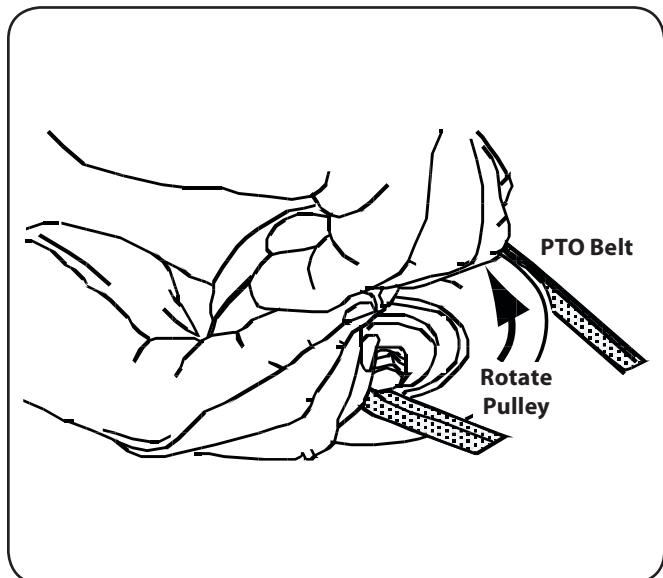

Figure 7-9
10. Pull the right side of the belt and place the narrow V side of the belt into the PTO pulley. See Fig. 7-9.
11. While holding the belt and pulley together, rotate the pulley to the left (See Fig. 7-9). Continue holding and rotating the pulley and belt until the belt is fully rolled into the PTO pulley.